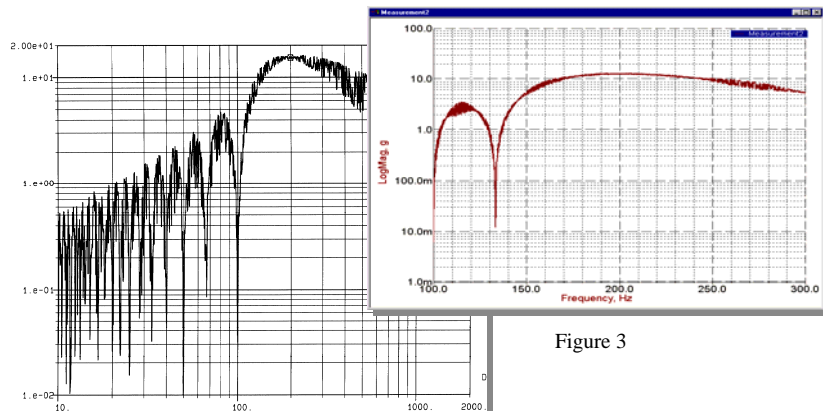

Figure 3
**Improper Tracking Filter Examples:** Most vendors offer a digital process as a substitute for an actual filter. The “process” loosely referenced as a Tracking Filter, has two very significant shortcomings. Digital smearing is the name for the fact that the “filter” does not smoothly track the drive frequency, causing the signal to be measured like an FFT would, showing the pure tone as though it were many closely spaced frequency lines of the FFT, thus **SMEARING** between many lines. The FFT process **JUMPS**, not sweeps. The other issue is very poor rejection. See examples in **Figure 3**.
**Example Tracking “Filters”:** Figure 3, at left, shows actual measured filter shapes from selected vendors who claim to have tracking filters.